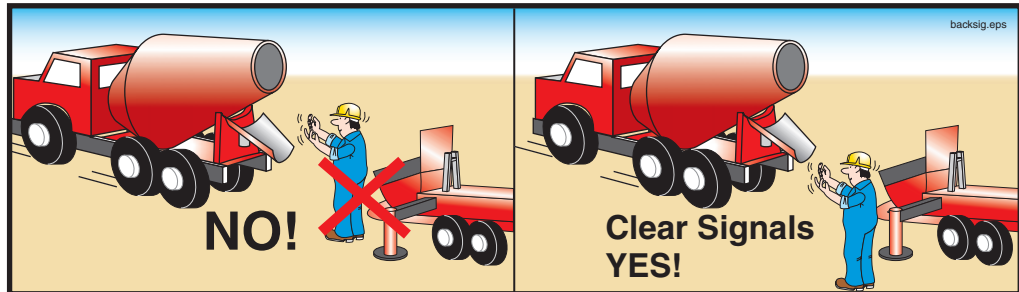

Figure 39
8.6 **⚠ WARNING** **Crushing hazard! Never, ever** position yourself between a ready mix truck and the pump! Stand off to the side, so the ready mix driver can see you at all times (Figure 39).
8.7 **⚠ WARNING** When backing in ready mix trucks, use clear and concise hand signals (Figure 39).